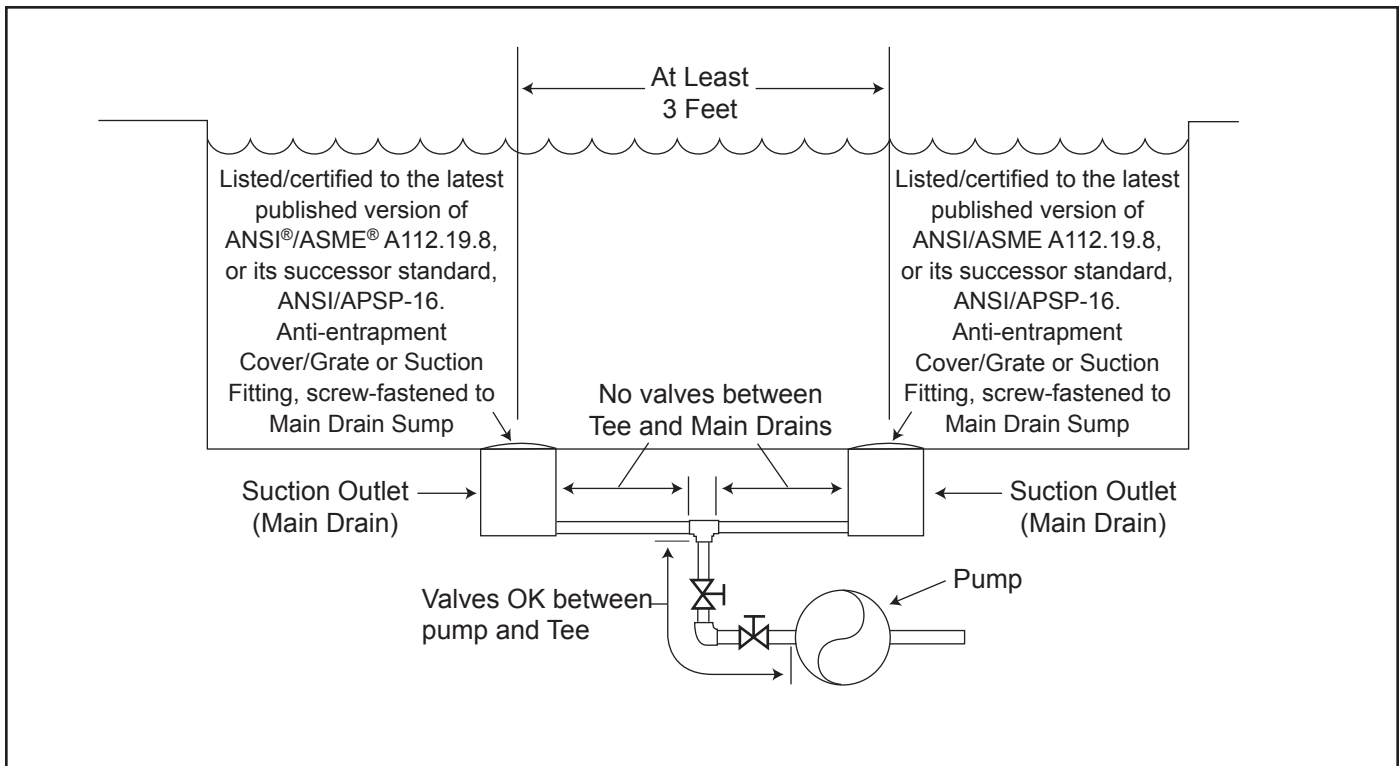

Figure 1. Number of Suction Outlets Per Pump
**Number of Suction Outlets Per Pump** - Provide at least two (2) hydraulically-balanced main drains, with covers, as suction outlets for each circulating pump suction line. The centers of the main drains (suction outlets) on any one (1) suction line must be at least three (3) feet apart, center to center. See Figure 1 on page 7.
The system **must** be built to include at least two (2) suction outlets (drains) connected to the pump whenever the pump is running. However, if two (2) main drains run into a single suction line, the single suction line may be equipped with a valve that will shut off both main drains from the pump. The system shall be constructed such that it shall not allow for separate or independent shutoff or isolation of each drain. See Figure 1 on page 7.